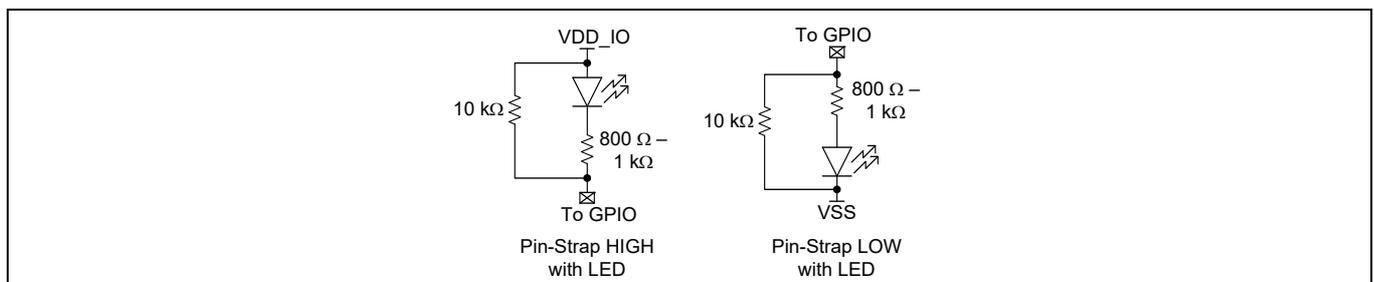
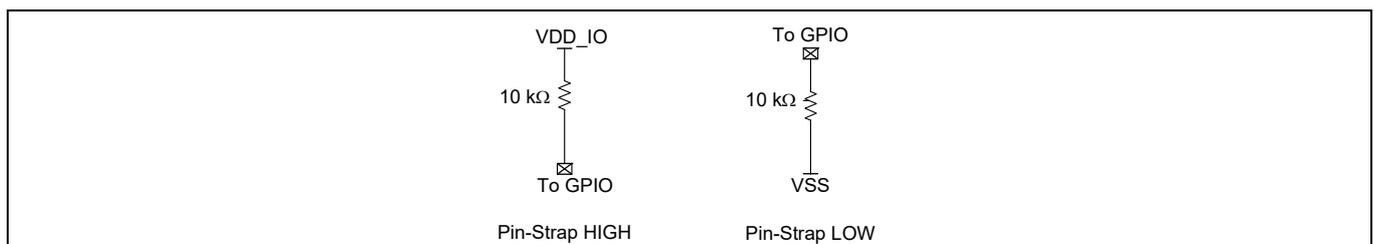

Figure 13 Pin-Strap with LED or LED-only connection
Figure 14 Pin-Strap connection
Pin-straps are supported for select product options (see Table 1) to provide reconfigurability without an additional EEPROM. The pin-strap configuration is enabled by pulling Pin #B9 HIGH. Table 6 shows the configuration options supported through pin-straps and the GPIOs used for this purpose. Figure 13 and Figure 14 show how the GPIOs need to be connected if pin-strap and LED connection are required or only pin-strap is required.
- 10. See Figure 13 and Figure 14.